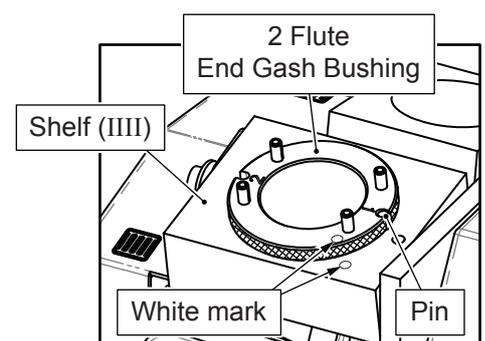

Fig. 5-11
3) End Gash Grinding Shelf (III) (Fig. 5-11)